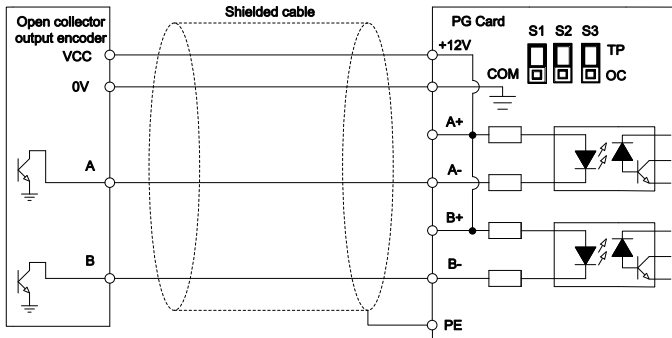

Figure 5-4 Connection schematic diagram of EXC-PG02 and the open collector output encoder
- 2) Follow Figure 5-4、5-4、5-6 to connect PG card and encoder